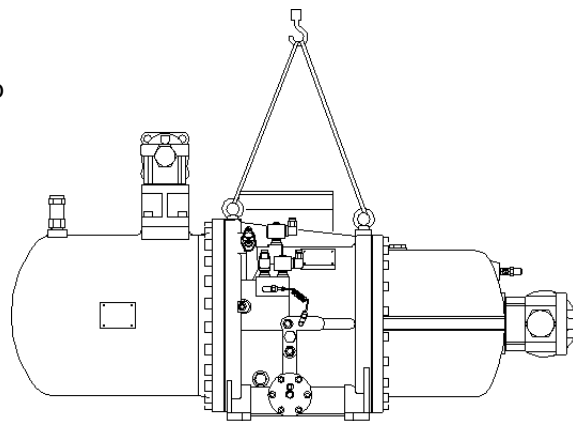

Figure 1
3. Use either steel cable or safety ropes to lift the compressor, see Figure 1. The cable should be capable of holding up to a minimum of 2 tons.